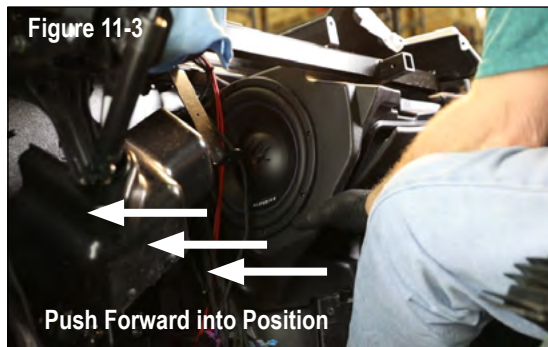

Figure 11-3
Sitting on the floor of the RZR, hold the subwoofer enclosure up to the grab bar pipe and push it forward into place as shown in Figure 11-3.
**NOTE** – When the subwoofer starts to seat into place, continue to push the subwoofer firmly forward as shown in Figure 11-3 as you tighten mounting hardware. This forward pressure will be critical when you reassemble the front dash for fitment into all the clips.